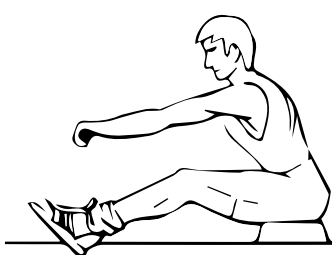

Fig. 4
- Sit as shown in Fig 4 with your legs straight, lean forward and grasp the handle.